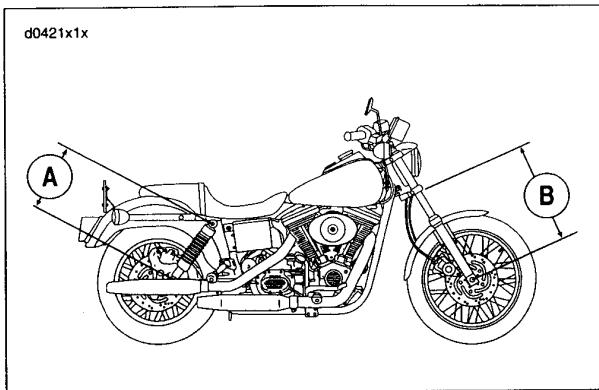

Figure 1-42. Preload Adjustment
2. See Figure 1-42. With the motorcycle unloaded, take the following measurements.